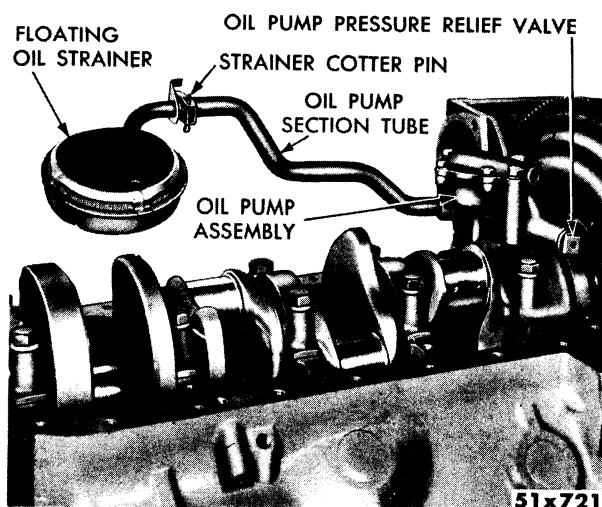

Fig. 53—Oil Pump, Suction Tube and Strainer Installed (Typical)
- (1) Install the strainer on the end of the suction tube and secure with a cotter pin.
- (2) Install suction tube into the pump body.
- (3) Install the oil pump, suction tube, and strainer to the rear main bearing cap, as shown in Figure 53. Tighten the mounting bolts to 35 foot-pounds torque.